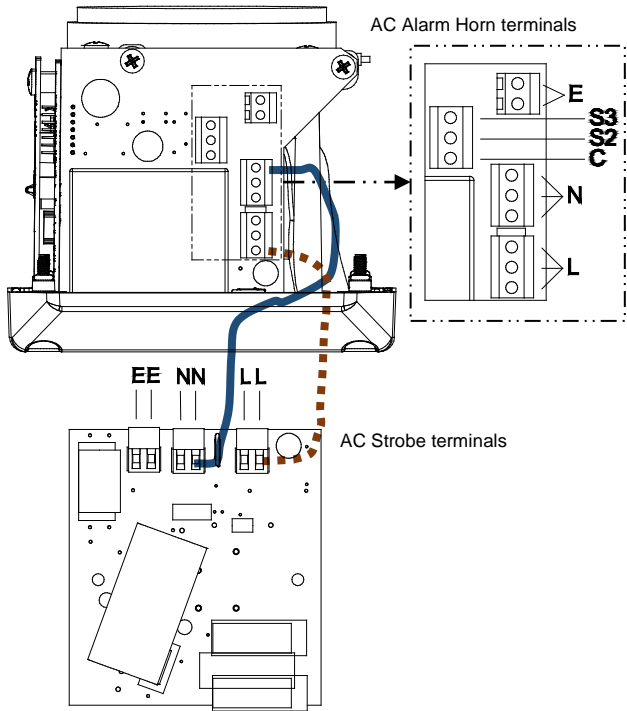
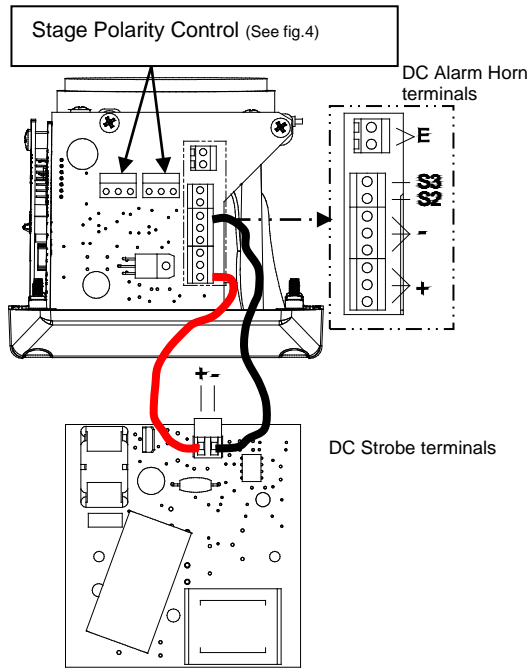

Fig. 5 AC Terminals
Fig. 8 DC Terminals
- Fit an M20x1.5 suitably rated, certified cable gland or conduit entry into the hole in the enclosure and connect the field wiring to the appropriate alarm horn terminals as shown in section 9 and fig 8 (DC) or section 8 fig 5 (AC) of this manual. The power supply terminals are duplicated so that horns may be connected in parallel and for DC units only an end of line monitoring resistor may be fitted. If the second M20x1.5 entry is not used a suitably rated, certified stopping plug must always be fitted.
Stage one (S1) operation: Simply connect the supply voltage to the L and N supply terminals, (see fig. 5). The Strobe is powered via factory installed wires connected to the sounder. The wires connecting the alarm horn and strobe can be removed if the user wishes to power the strobe separately.
Stage one (S1) operation: Simply connect the supply voltage to the + and - supply terminals, (see fig. 8). The Strobe is powered via factory installed wires connected to the alarm horn. The wires connecting the alarm horn and strobe can be removed if the user wishes to power the strobe separately.
Internal earthing connections should be made to the internal earth terminal on the PCBA, (please see fig 5 for AC, fig 8 for DC). The earth conductor should be at least equal in size and rating to the incoming power conductors. The internal earth bonding wire connects the PCBA earth terminal to the internal earth terminal in the enclosure back box.